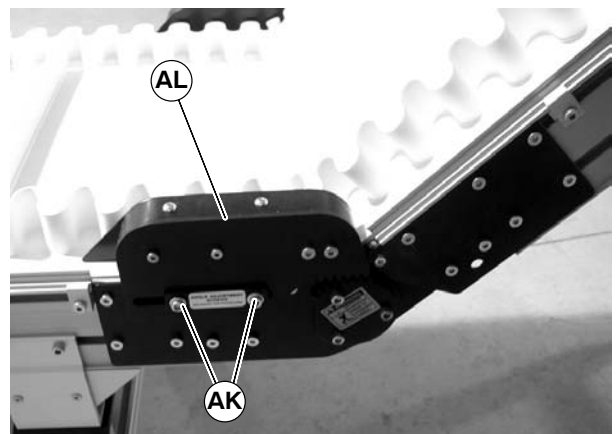

Figure 78
1. Remove screws (AK of Figure 78) and remove lower knuckle return roller assembly (AL) on both sides of knuckle, note the position of the meshing teeth.